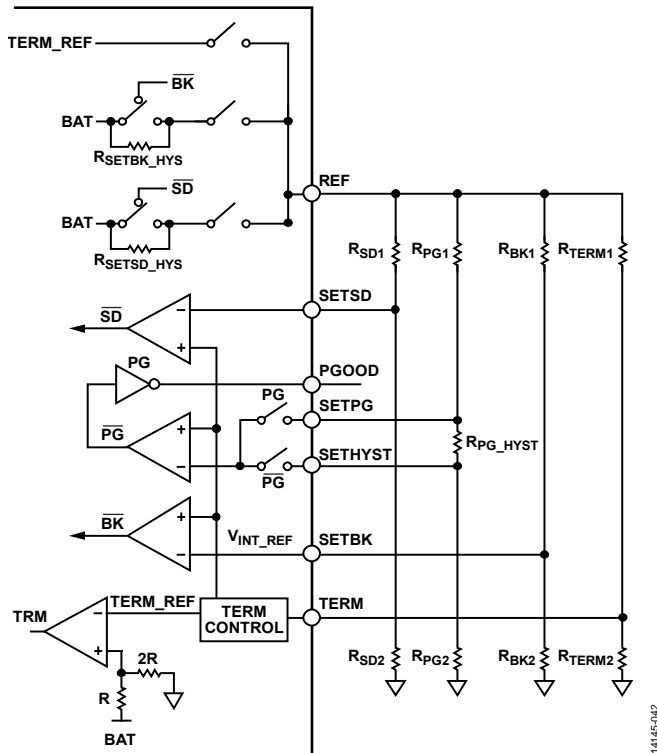

Figure 42. ADP5091/ADP5092 Program Parameter Setting
To determine when to enable the BACK\_UP function, the switch threshold on the BAT pin must be set by using external resistors at SETBK pin. When the BAT voltage is lower than the SETBK threshold, the internal BACK\_UP\_Mx control circuit automatically selects the high voltage terminal as the SYS power source. Figure 42 shows the  $V_{SETBK}$  falling threshold voltage given by Equation 3.
To prevent rechargeable batteries from being overcharged and damaged, the battery terminal charging threshold ( $V_{BAT\_TERM}$ ) must be set by using external resistors. Figure 42 shows the  $V_{BAT\_TERM}$  rising threshold voltage given by Equation 6.
To prevent rechargeable batteries from being deeply discharged and damaged, the battery stop discharging threshold ( $V_{SETSD}$ ) must be set by using external resistors. Figure 42 shows the  $V_{SETSD}$  falling threshold voltage given by Equation 8.
The ADP5091/ADP5092 allow users to set a programmable PGOOD voltage threshold, which indicates that the SYS voltage is at an acceptable level. It must be set by using external resistors. Figure 42 shows the  $V_{SETPG\_FALLING}$  falling threshold voltage given by Equation 11.
**Table 8. Programming Threshold Resistors (See Figure 42)**